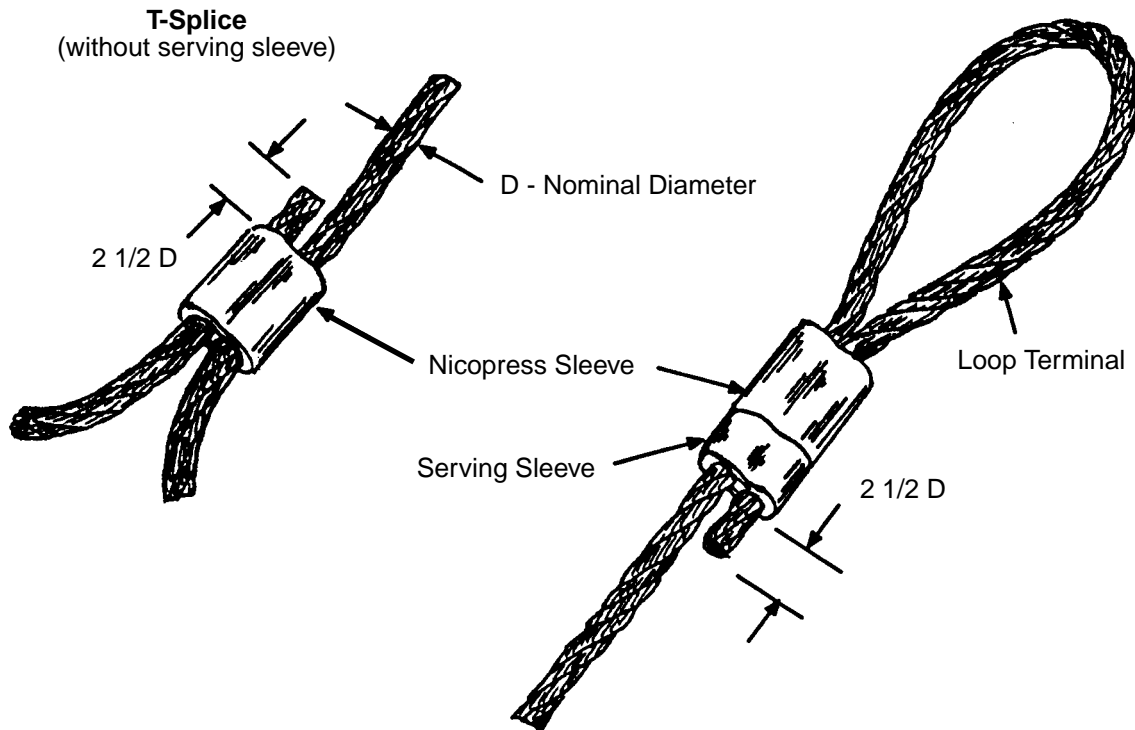

Figure 2 - Assembly Procedure
5.3 Assembly Procedure (see Figure 2)